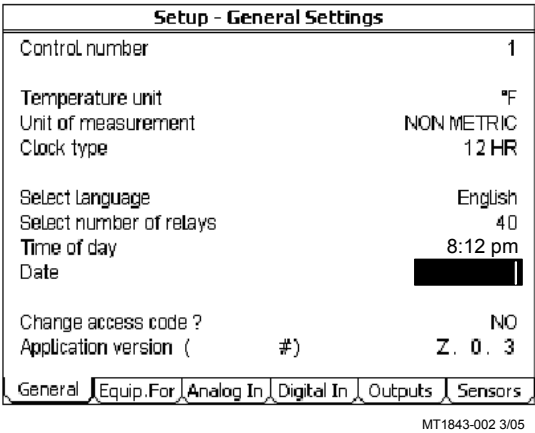

Figure 15. Changing the Date.
- 2. Press the **EDIT** button and use down arrow to highlight the Date (**Figure 15**). Using the Numeric Keypad, enter in the correct day, followed by the decimal key (.). Then enter the correct month, followed by the decimal key (.). Finally, enter the correct year. *The example below is setting the date to February 7th, 2005.*